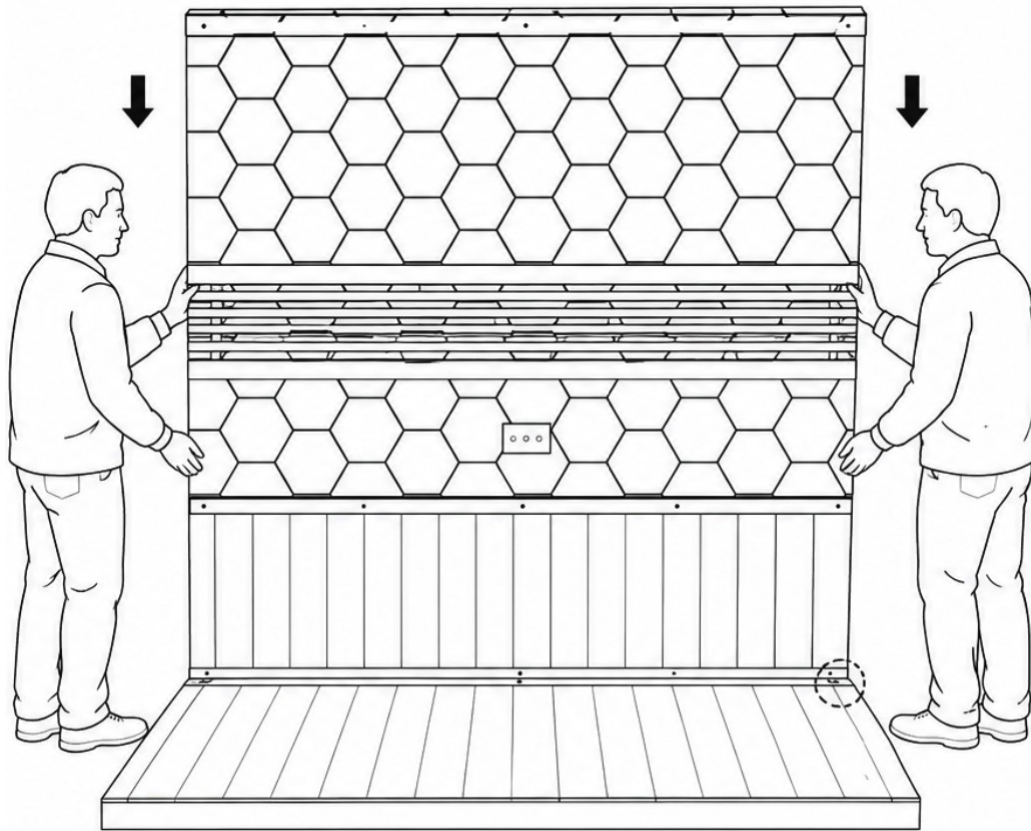

Figure 7. Back Panel (B) lifted by two people and lowered onto the rear edge of the Floor Panel, centered left to right.
- With two people lifting, raise the Back Panel (B), tile wall facing the front, and lower it onto the rear edge of the Floor Panel (Figure 7). Keep fingers clear of the bottom edge as the panel settles.